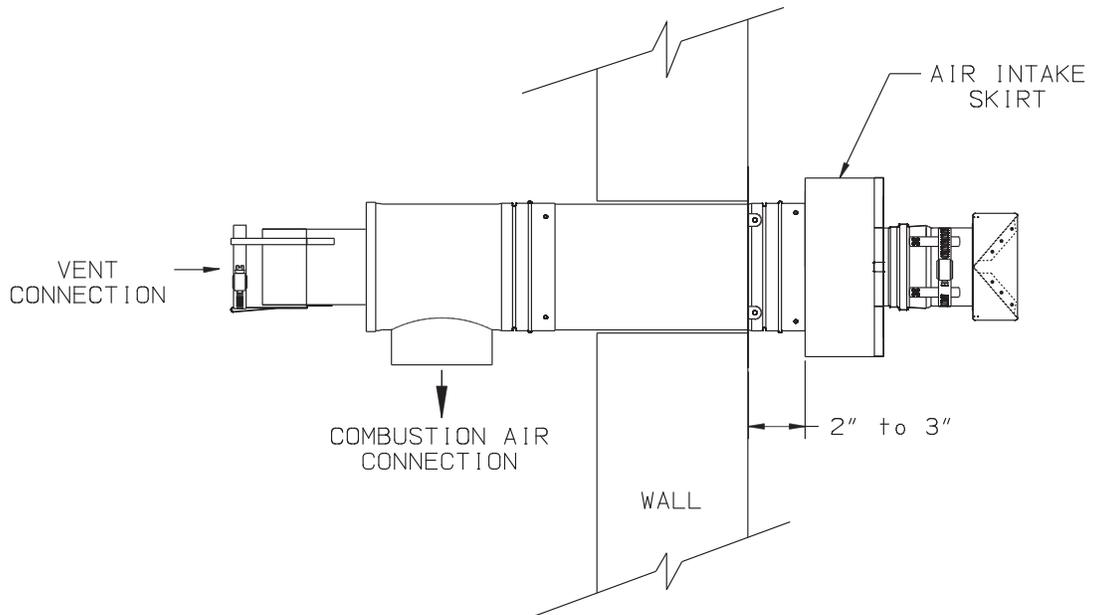

FIGURE 6.14b: CROWN COAXIAL TERMINAL ASSEMBLY
- f) Adjust the position of the terminal in the wall so that the edge of the intake skirt is 2-3” from the wall plate (Figure 6.14b). Also verify that the terminal is pitched in the same direction as the rest of the vent system.
- h) Loosen the hose clamp on the end of the exhaust terminal. Mount the exhaust terminal onto the intake terminal with the “V” horizontal (flue gas openings on top and bottom) as shown in Figure 6.14b. Slip the hose clamp over the “fingers” on the intake terminal and tighten the clamp.